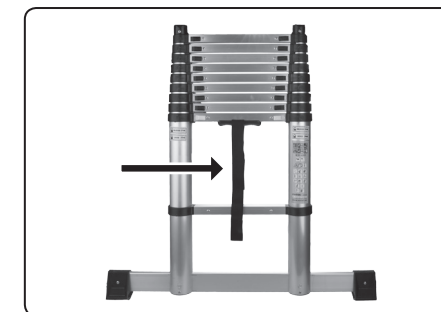

Fig. 3
- Remove the Velcro zip strap that is securing the ladder (fig. 3).